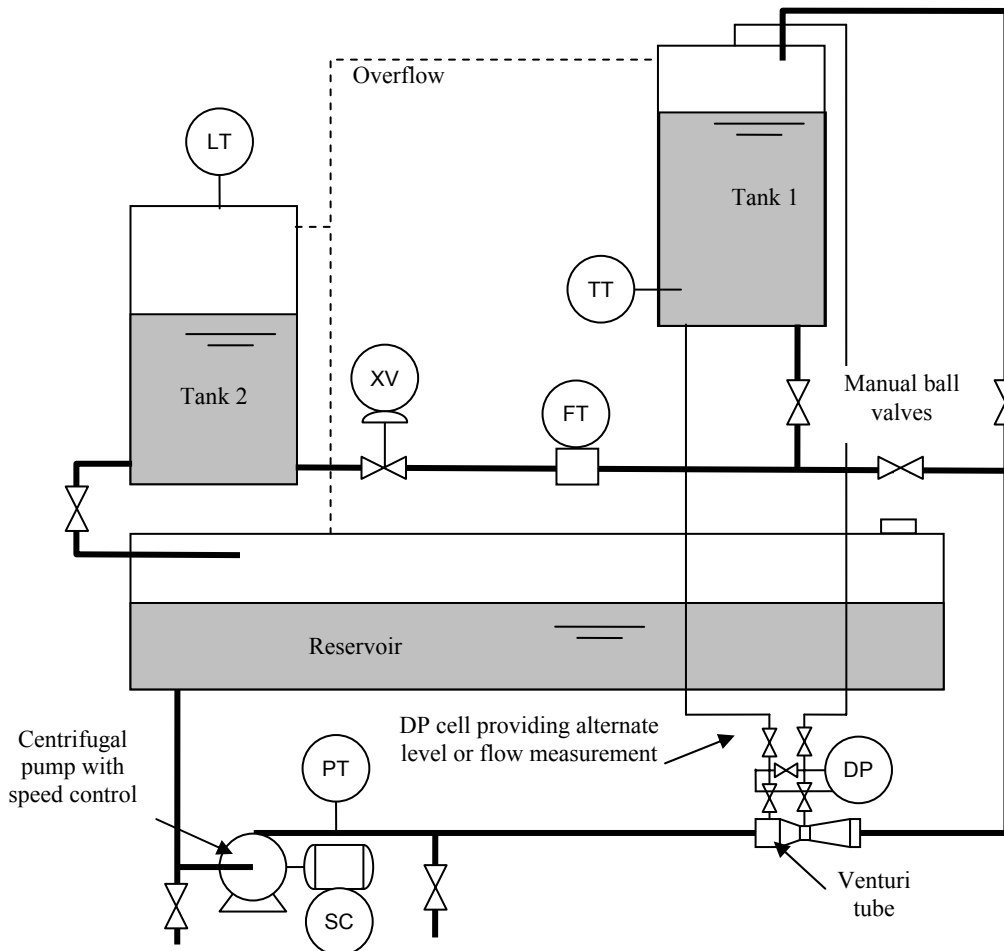

Figure 1 – Basic Process and Instrumentation diagram for the PCI rig
Figure 1 shows the basic rig Process and Instrumentation (PI) diagram. A reservoir holds water which is pumped by a speed-controlled centrifugal pump (SC) to the rest of the process. The three-phase motor that drives the pump is controlled using a networked variable frequency inverter.